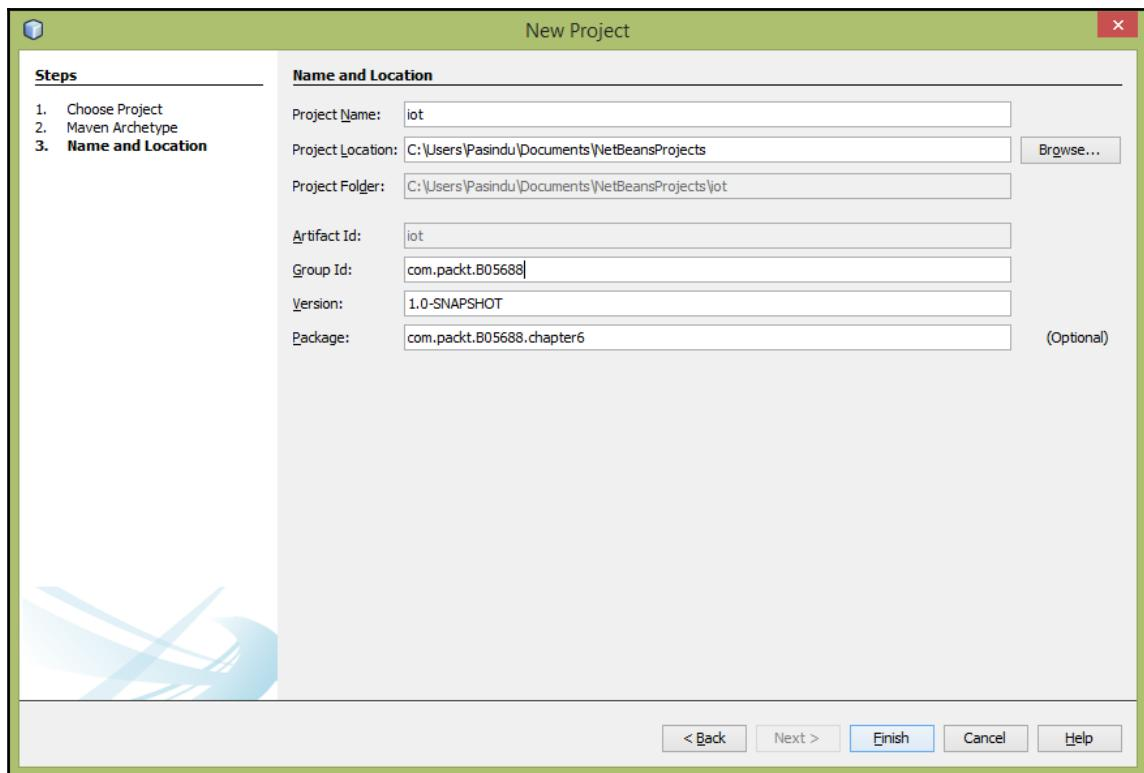

Figure 6-6: Name and Location
6. In **Name and Location** (step 3), type `iot` for **Project Name**, `com.packt.B05688` for **Group Id**, and `com.packt.B05688.chapter6` for **Package**, as shown in Figure 6-6.